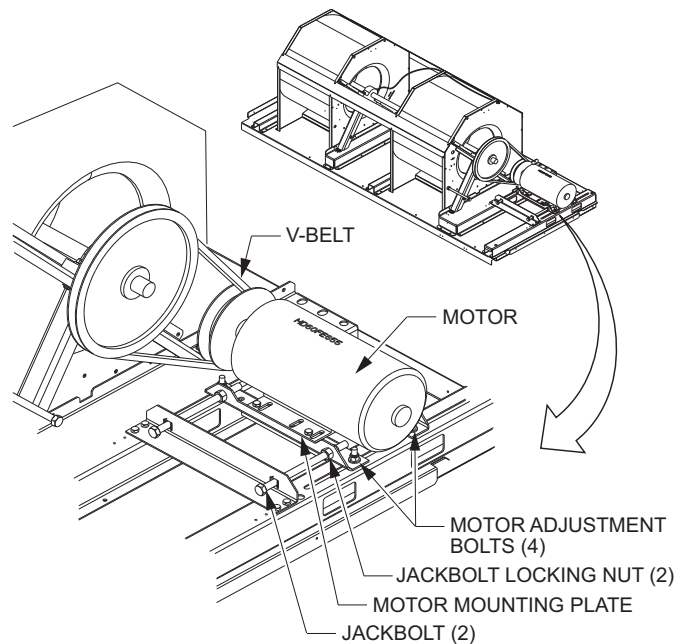

Fig. 4 — Belt Drive Motor Mounting
The supply fan system consists of two forward-curved centrifugal blower wheels mounted on a solid blower shaft that is supported by two greaseable pillow block concentric bearings. A fixed-pitch driven fan pulley is attached to the fan shaft and an adjustable-pitch driver pulley is mounted on the motor. The pulleys are connected using a V-belt. See Fig. 4.
Use the following steps to adjust the V-belt tension. See Fig. 4.
2. Loosen (turn counterclockwise) the motor mounting plate front bolts and rear bolts. See Fig. 4.
2. Loosen belt by loosening the motor adjustment bolts as described in the Belt Adjustment section above. See Fig. 4.